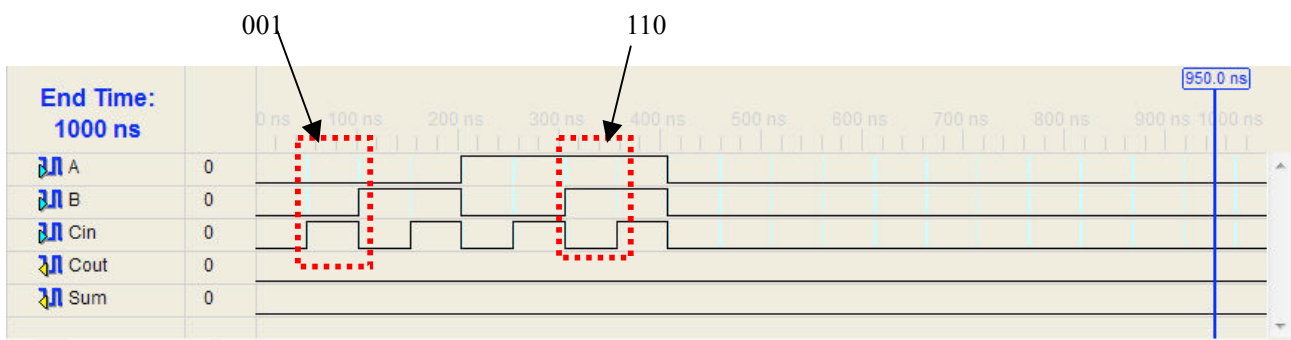

Figure 9. Test Bench Waveform with Specified Inputs
- Click on the input waveforms (the ones next to signal A and B) to change the values from 0 to 1 or 1 to 0. Perform an exhaustive verification on the circuit by testing all the possible combinations of the inputs (000, 001, 010 ... 111), as shown in Figure 9.